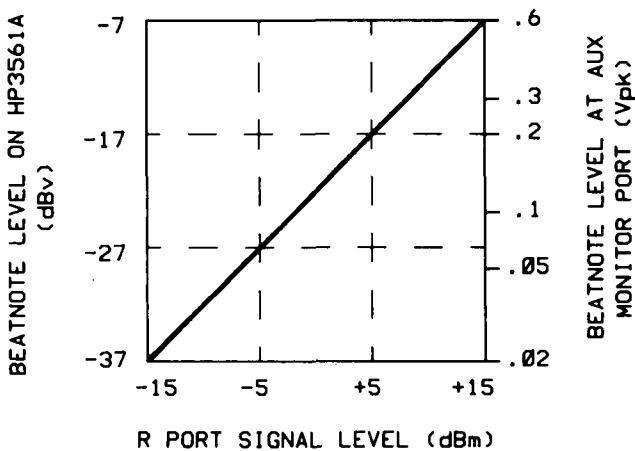

Figure 3-36. Beatnote Level Relative to the Signal Level at the R Port.
1. Observe the beatnote on the time record of the HP 3561A or on an oscilloscope connected to the AUX MONITOR port of the HP 11848A. Verify that the beatnote amplitude is correct for the signal level at the R input port on the HP 11848A. Figure 3-36 shows the relationship between the beatnote level and the level at the R input port.